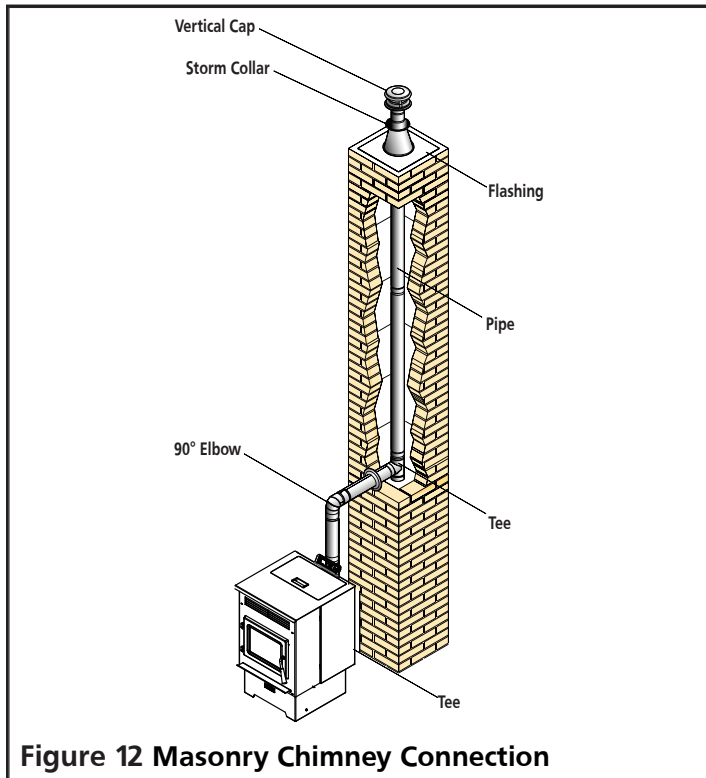

Figure 12 Masonry Chimney Connection
2. The chimney connection must not be obstructed by the chimney connector pipes, such as the Figure 12 below illustrates.